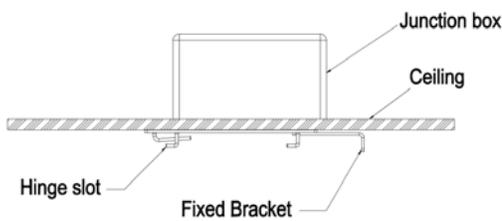

FIG.6
1. Secure the mounting bracket (provided, see FIG. 6) to junction box.